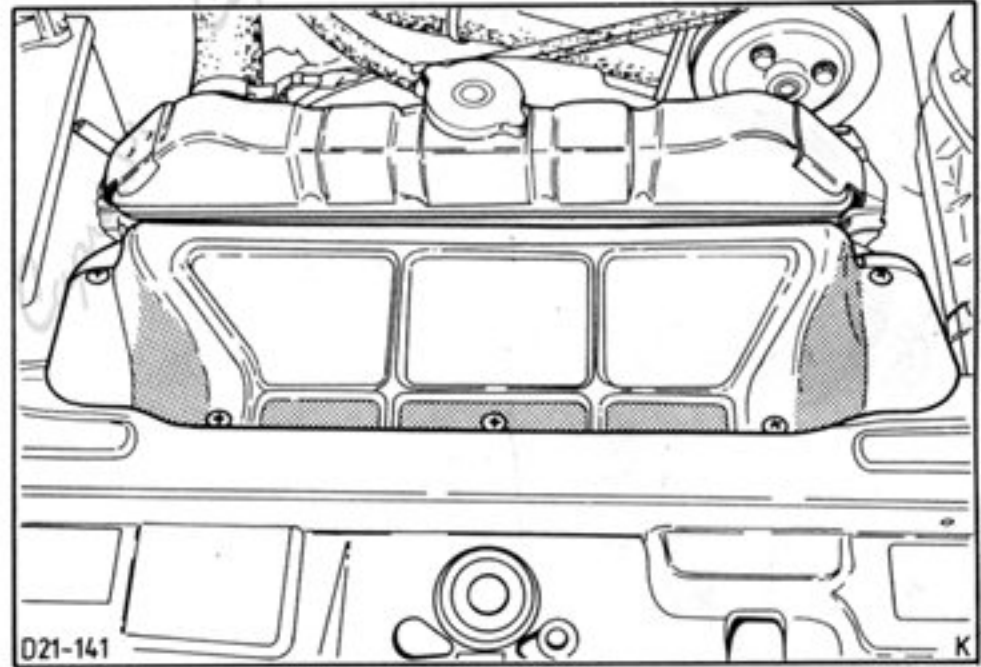

Fig.5. Remove splash shield.
4. Unscrew splash shields, Fig.5. and fan shroud (5 and 4 bolts respectively). Unbolt radiator (4 bolts) and lift out with shroud.